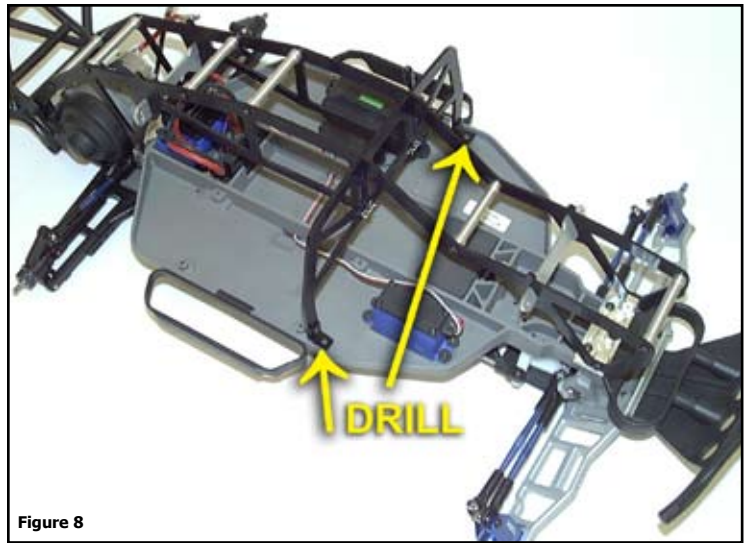

Figure 8
6. Assemble the *Roll Cage* as shown in *Figure 8*. The cage rails are formed to widen in the back. Hold the two *Rails* parallel and fit the *Front and Rear Shock Mounts* in place. Fit the *Hoop* into place and secure with two *Small Body Clips*. Attach the six *Spacers* with *M3x8 BHCS*. Attach the two *Cagemount 3 Brackets* to the front of the *Hoop* with *M3x8 BHCS* and *Lock Nuts*.